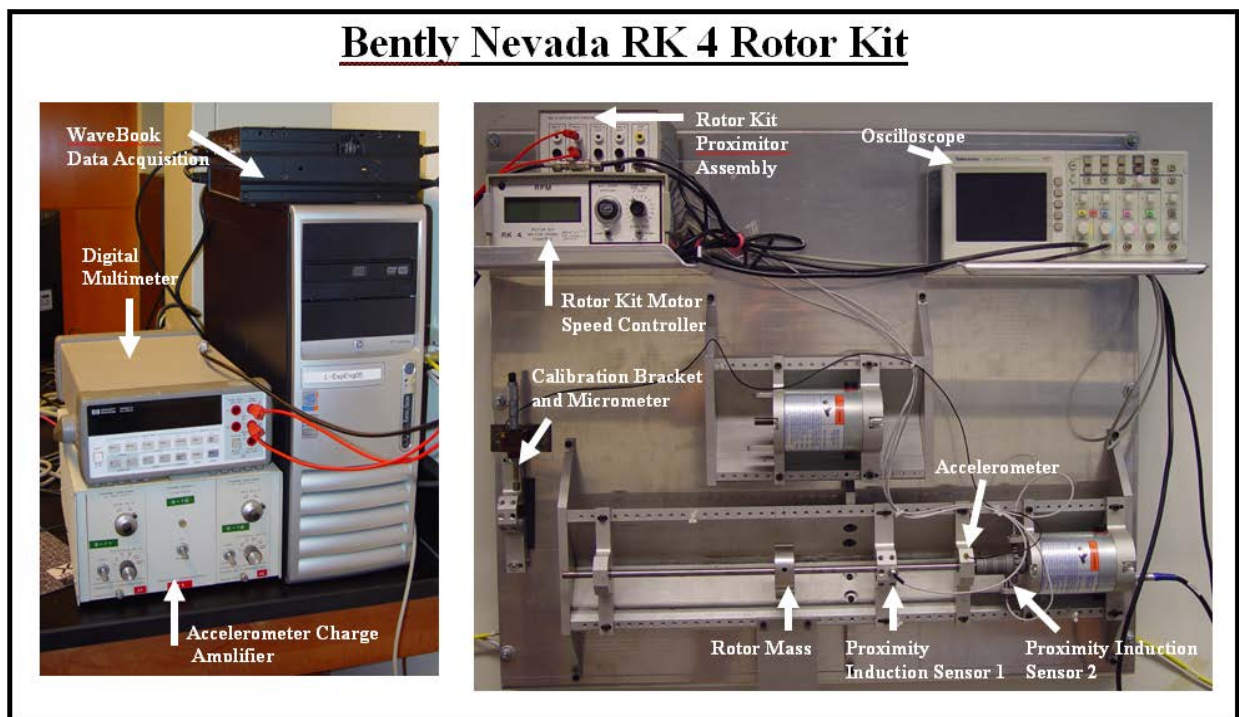

Figure 1: Bently Nevada RK 4 Rotor Kit Experimental Setup
- a) Unscrew and unplug the sensor from the Probe 1 input on the back of the Rotor Kit Proximator Assembly (RKPA). Refer to Figure 1.
- b) Using a BNC coaxial cable, connect the channel labeled $K\phi$ on the RKPA front panel to Channel 2 of the oscilloscope. This channel represents a second induction sensor that detects a notch located on the shaft (Induction Sensor 2 in Figure 1). This sensor can be used to determine the rotational speed of the shaft without using the RPM display.